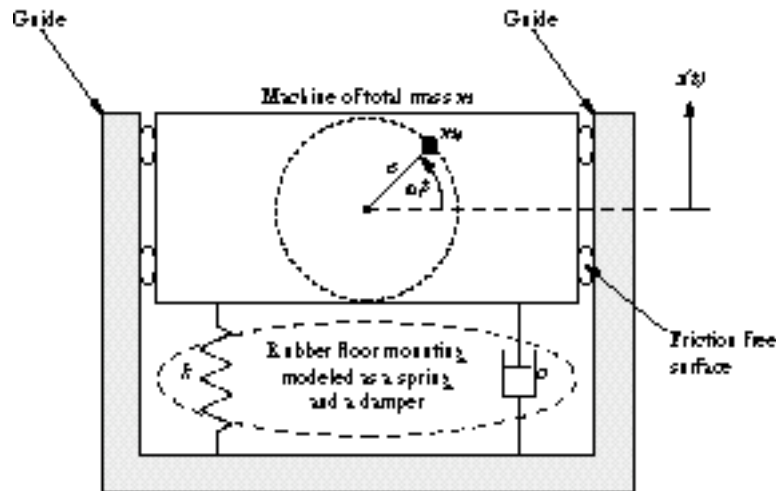

Figure P2.57 Typical unbalance machine problem.
- 2.57 Consider a typical unbalanced machine problem as given in Figure P2.57 with a machine mass of 120 kg, a mount stiffness of 800 kN/m and a damping value of 500 kg/s. The out of balance force is measured to be 374 N at a running speed of 3000 rev/min. a) Determine the amplitude of motion due to the out of balance. b) If the out of balance mass is estimated to be 1% of the total mass, estimate the value of the e .